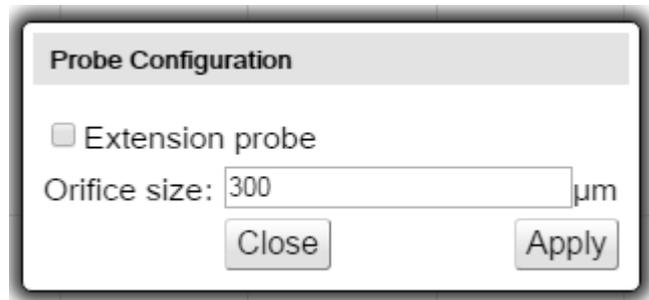

Figure 40: Probe configuration dialog box
1. If the Probe Configuration dialog box (see “Figure 40: Probe configuration dialog box” on page 46 below) is not already open following the installation of a probe, select Probe Configuration... from the Tools menu.